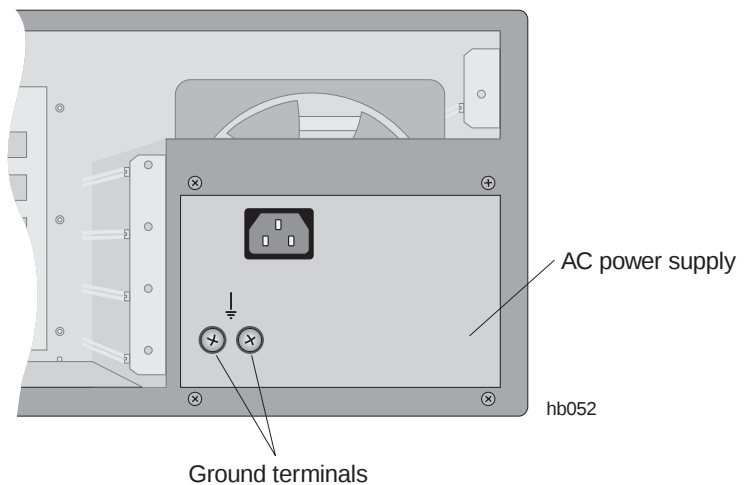

Figure 6-10 Ground terminals on ac power supply
1. Use a 2-hole lug to connect a No. 16 AWG ground wire to the ground terminals on the front of the power supply. See figure 6-10.